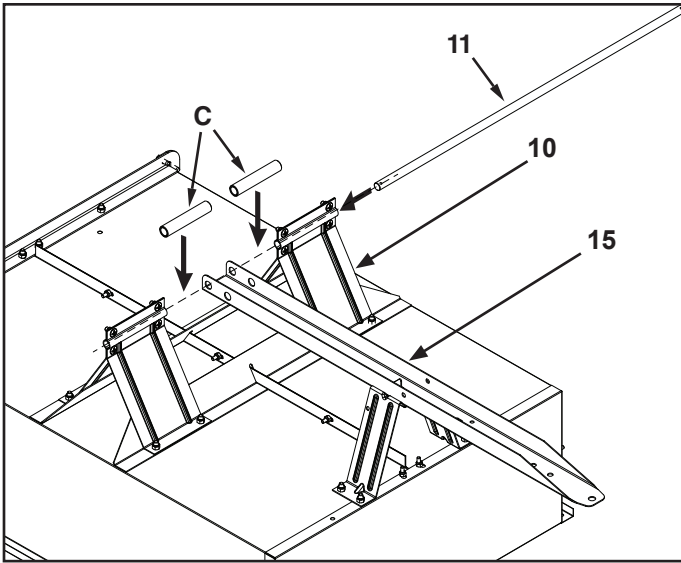

FIGURE 14
STEP 14: (SEE FIGURE 14)
- Install the axle (11) through the wheel support (10), a spacer (C), the rear hole in the 5/8" axle tongue (15), a spacer (C), and the wheel support (10) as shown in figure 14.